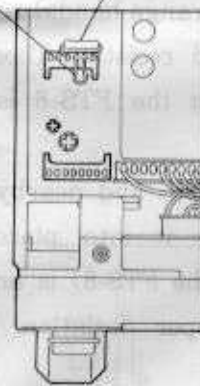

Figure 2
2. Referring to Figure 2, locate the two plastic connectors on the Main Board just behind the tuning knob. A small (1/4W) 47k Ω resistor and a jumper wire are installed in the rearmost connector, and these must be removed before installing the FTS-8.